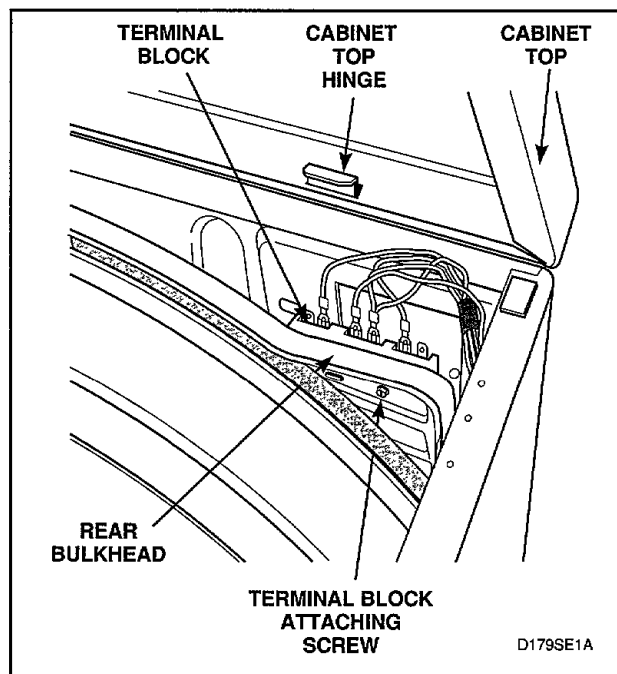

Figure 46
- (6) Lift cabinet top to a vertical position by hinging it on the rear hinges, *Figure 46*.
- (7) Remove all wires from terminal block. (Refer to appropriate wiring diagram when rewiring terminal block.)
- (8) Remove screw holding terminal block to rear bulkhead, *Figure 46*.
- Lift cabinet top to a vertical position by hinging it on the rear hinges, *Figure 46*.
- s. Remove two screws from each rear hinge, *Figure 46*.